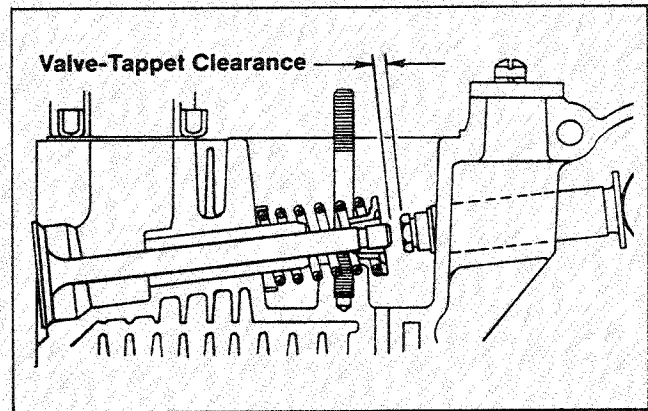

Figure 3-13. Valve-Tappet Clearance
2. Measure clearance between valve stem and tappet with a feeler gauge. (See Figure 3-13.) To adjust, turn adjusting screw on tappet in or out until proper clearance is attained.